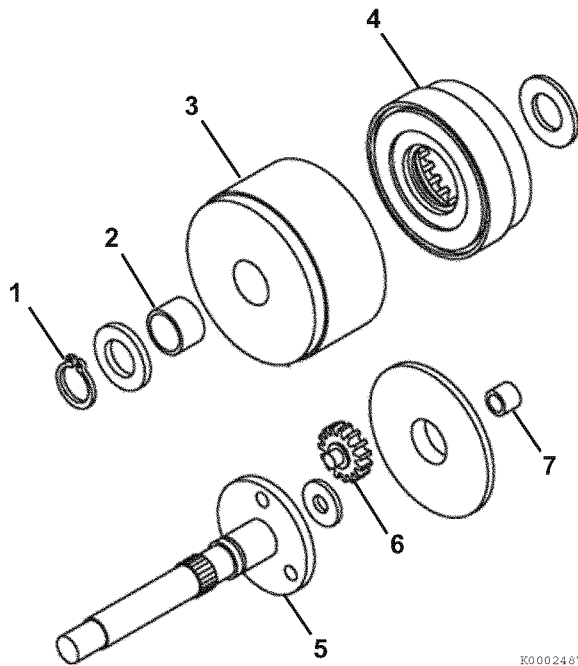

Figure 11-28
2. Reassemble the reduction gear (4, **Figure 11-28**), pinion shaft (5, **Figure 11-28**), planetary gears (6, **Figure 11-28**), and washers into the intermediate housing (3, **Figure 11-28**). Reinstall snap ring (1, **Figure 11-28**).